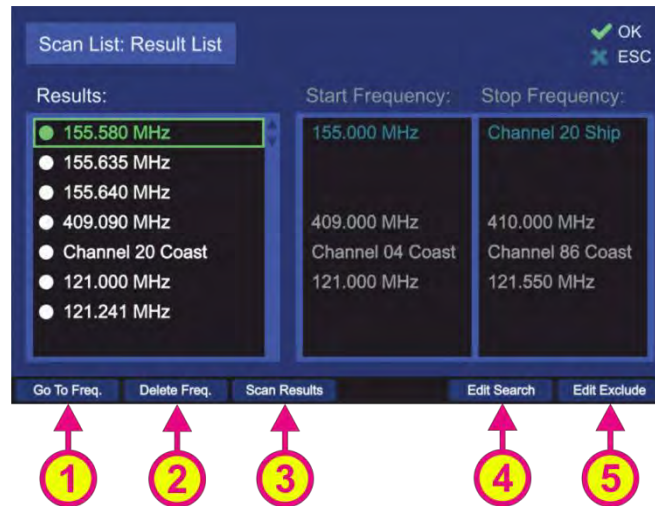

Fig. 55 Result List Settings
- Pressing the hotkey “Go to Result” (s. Fig. 54, position 5) during the scan list mode is currently running, will interrupt the scan mode, and open the “Result List”, where you can select the next action (s. Fig. 55). This hotkey appears only if there is a result for this scan.
- Pressing the hotkey “Go to Freq.” (s. Fig. 55, position 1) adopts the currently marked frequency as main bearing frequency and switches to the normal bearing mode on the “Bearing” page.
- Pressing the hotkey “Delete Freq.” (s. Fig. 55, position 2) deletes the currently marked frequency from “Result List”. The deleted frequency will not be skipped anymore, when the results are scanned after pressing “Scan Results”.
- Pressing “Scan Results” (s. Fig. 55, position 3) starts the scan list mode, which runs only around the frequencies which had a result during the last scan (frequency span around 100 kHz).
- Pressing “Edit Search” (s. Fig. 55, position 4) will open the “Search List” dialog (s. “Edit Scan” below).
- Pressing “Edit Exclude” (s. Fig. 55, position 5) will open the “Exclude List” dialog (s. 6.2.4.3).